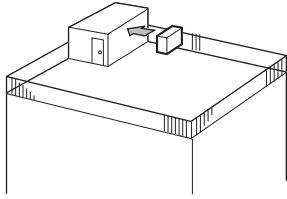

Fig. 1-3
- ① Face the air outlet towards the nearest available wall about 35 cm away from the wall. (Fig. 1-3)